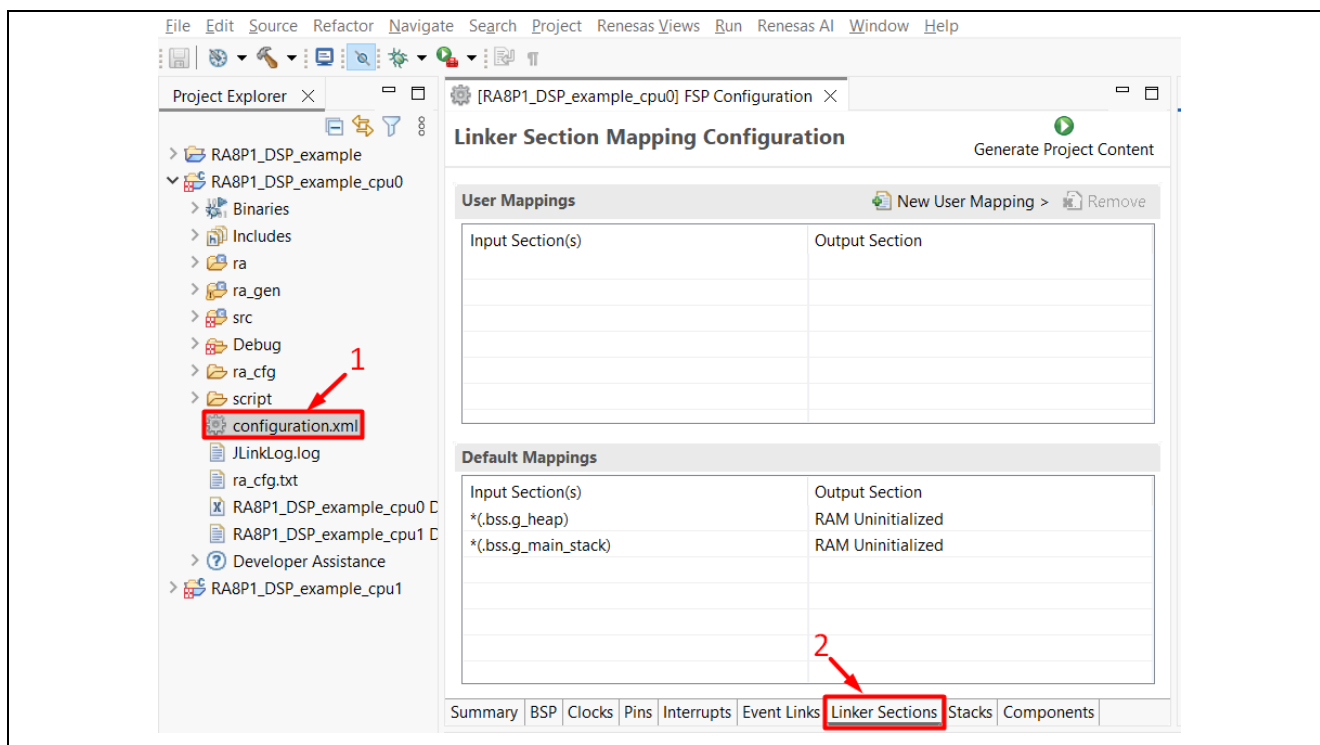

Figure 24. Open Linker Sections Tab
3. Navigate to the **Linker Sections** tab (refer to Figure 24).